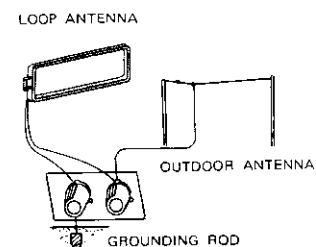

Fig. 4
• AM ANTENNA CONNECTION (Fig. 4)